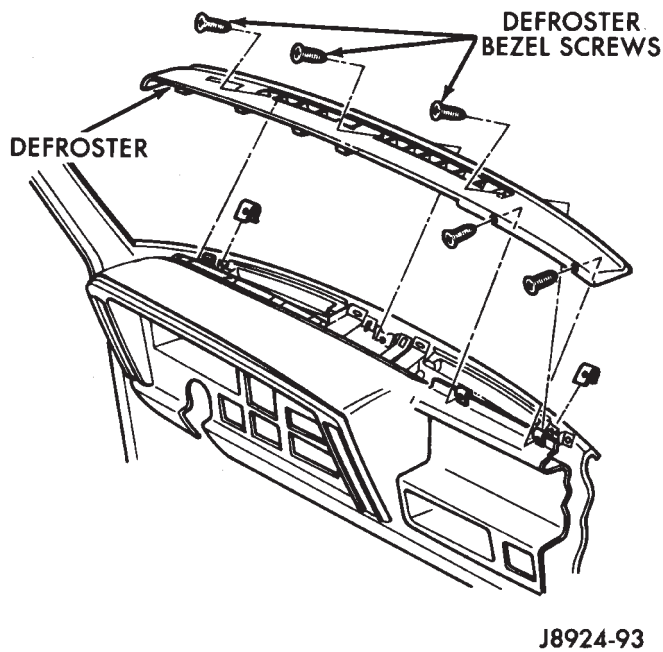

Fig. 16 Defroster Bezel
- (8) Remove the defroster bezel attaching screws and bezel (Fig. 16).